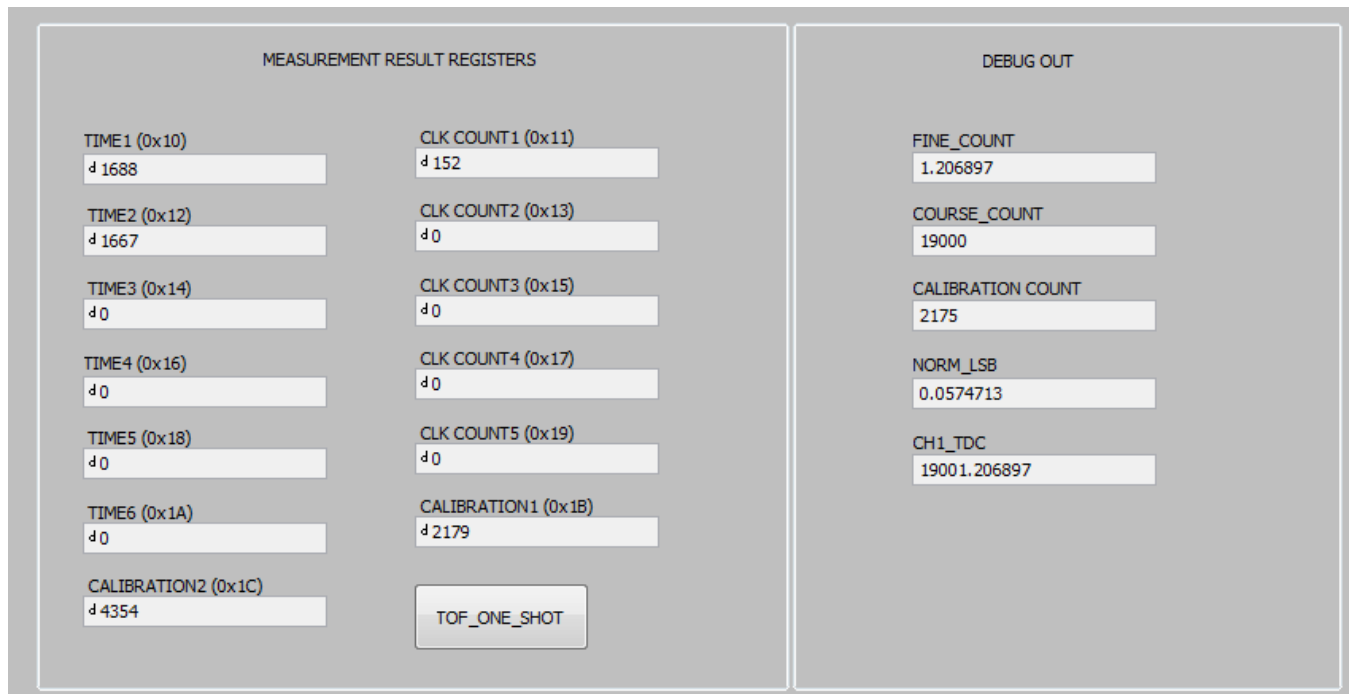

Figure 10. Measurement Results
- You should be able to see *similar* measurement results register values as shown in Figure 10 (assuming you follow the instructions as specified in Section 5.1).
- Use the values reported in the Measurement Result Registers (Figure 10) to validate the time-of-flight as approximately 19 μ s (assuming you follow the instructions as specified in Section 5.1).